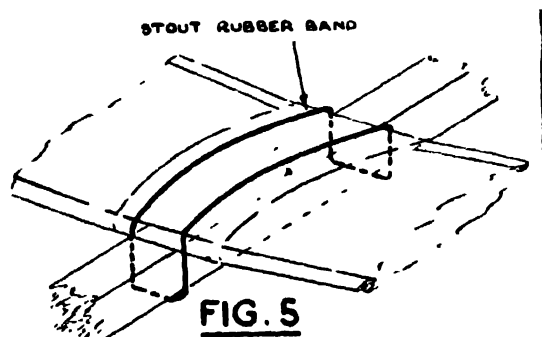

FIG. 5
Cement the fin to the centre of the tail plane and fix the small incidence block (W) under the leading edge of the centre section. Attach the wing and tail unit to the fuselage with rubber bands (Fig. 5). The approximate position of the wing is shown in Fig. 1, but its exact location must be fixed later during the flying trials.